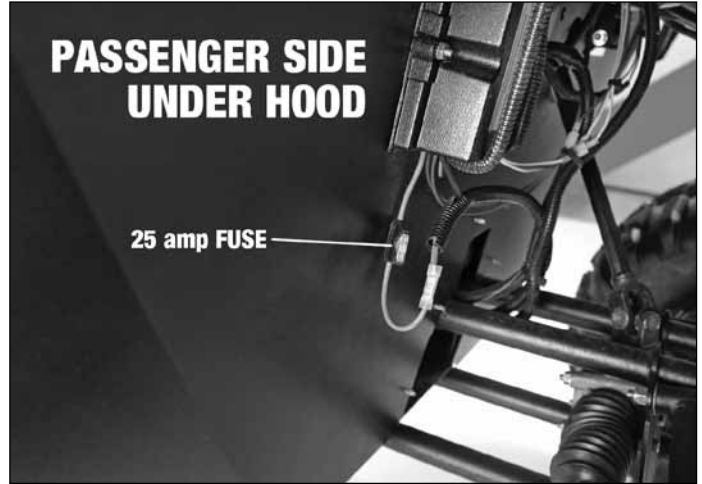

figure 4.24 (25 amp fuse)
- In addition to the main fuse, there are three smaller fuses to protect the 12 volt and 48 volt circuits. These fuses are shown in figures 4.24 & 4.25. Should these fuses blow and need replacement, a replacement fuse of the same rating must be used.